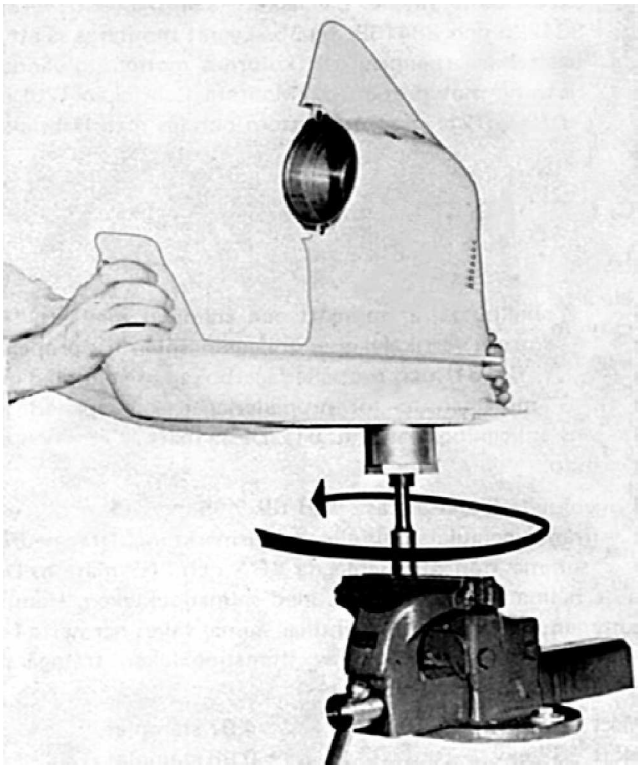
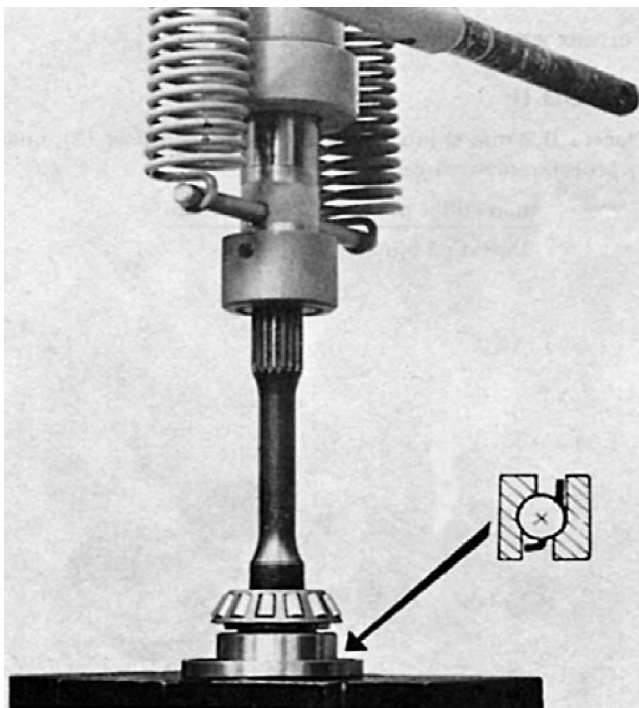

Fig. 31.
Fig. 32.
3. Remove the drive with the help of tools 884267 and 884264, see Fig. 31.
4. Lift out the drive (22).
**NOTE:** Take care of the washer for the needle bearing (6). The needle bearing (6) is a complete needle bearing with loose needles. Make sure that all 27 needles are taken out.
7. Press the ball and roller bearings off the vertical drive shaft (against the base of the press). See Fig. 32.
8. If the needle bearing (12) for the propeller shaft is damaged, remove it with the help of tools 884169 and 9991821. Place puller 9991821 in the needle bearing so that it hooks round the back of the needles. Then screw in extractor 884316 and tension the hooks apart to enable the bearing to be removed. The needle bearing race on the propeller shaft is then removed by splitting it.
1. Press the ball bearing (9) the distance piece (38) and the roller bearing (13) on to the shaft.
**NOTE!** Observe the position of the bearings. See Figs. 32 and 43. Use tool 884266.
2. Fit the distance rings (14), lock-washer (15) and nut (16). Tighten the nut, but do not lock it yet.
3. Place the gear (22) and washer in its position in order that it will be a guide for the vertical shaft.
4. Before installing the vertical shaft into housing place a shim set, consisting of one paper shim thickness 0,25 mm (0,01") between two metal shims having a thickness of 0,05 mm (0,002") into the recess for the ball bearing (9).
5. Fit the washer (18) and nut (17). Tighten the nut to a torque of 16 kpm (115 lb.ft.). Use tool 884264 in the splined end as a counterhold.
6. Fit the tensioning tool 884348 over the bearing (13).